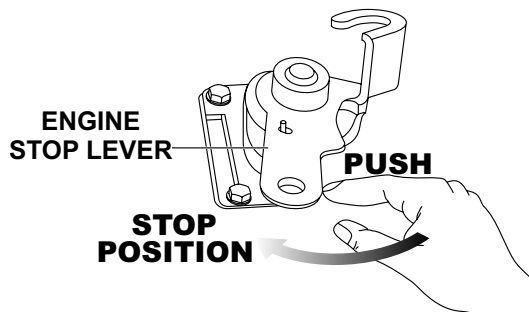

Figure 63. Engine Stop Lever
2. Place engine stop lever (Figure 63) in the **STOP** position. Continue pushing stop lever until the engine has completely stopped.